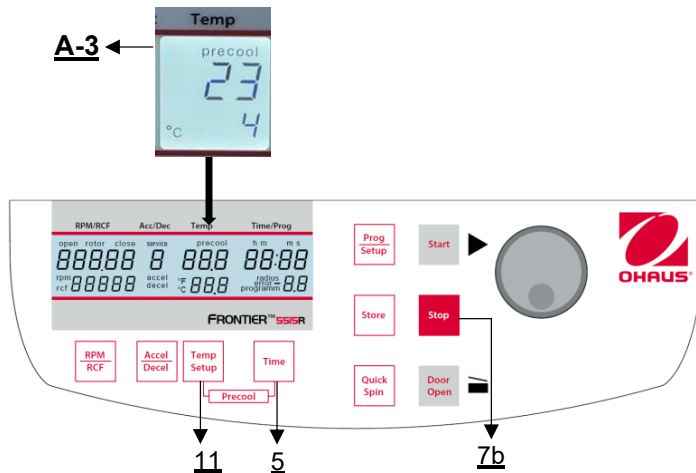

Figure 20
If the samples are temperature-sensitive it is useful to pre-cool the centrifuge, the rotor and eventually the buckets to the required working temperature. Therefore, insert the desired rotor and pre-set the respective temperature. By simultaneous pressing the keys "**Temp/Setup**" (11) and "**Time**" (5) you can start the run (**Figure 20**). While running, the unit chooses automatically a rotational speed that is equivalent to 30 or 50 % of the permitted rotational speed of the respective rotor (depending on the rotor). After the pre-set temperature is reached you can leave the pre-cooling run with the key "**Stop**" (7b)